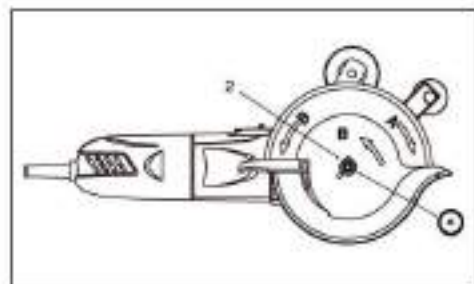

Fig.4
7. Place the blade "B" onto the adaptor with the "B" easily visible, then thread the lock nut onto shaft. Do not tighten, (see Fig. 4).